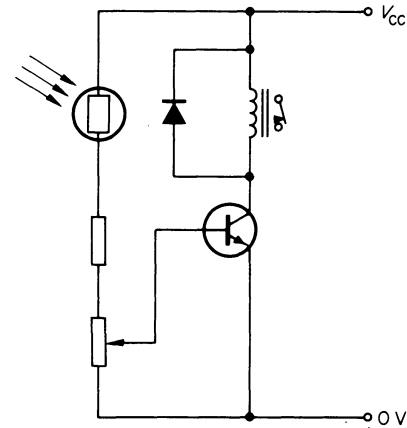
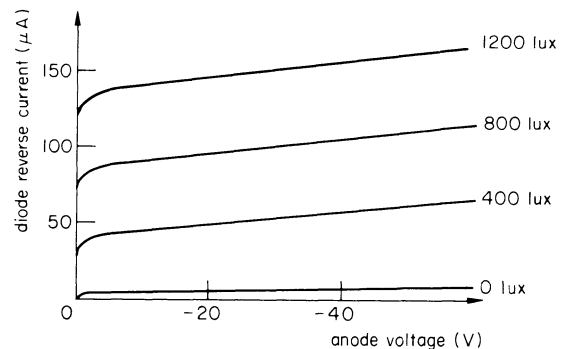
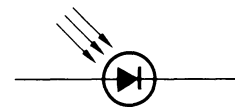

Figure 12.5
Figure 12.6a
Figure 12.6b
Figure 12.5 shows a simple circuit for operating a counter, alarm system, automatic street-lighting control, or any similar process.
de-energised relay recloses its contacts, thereby operating the counter. The diode across the relay coil is used to prevent the back e.m.f. from the coil damaging the transistor. The advantages of the type of cell used in figure 12.5 are (1) high sensitivity, (2) high power rating, (3) non-polarisation, (4) robust construction, (5) low cost, (6) good response to infra-red light.
are formed and the leakage current increases. Typical characteristics for a photodiode at constant temperature are shown in figure 12.6a and the appropriate symbol is shown in figure 12.6b. This photodiode could replace the photoconductive cell in figure 12.5 and the circuit would operate in a similar manner.